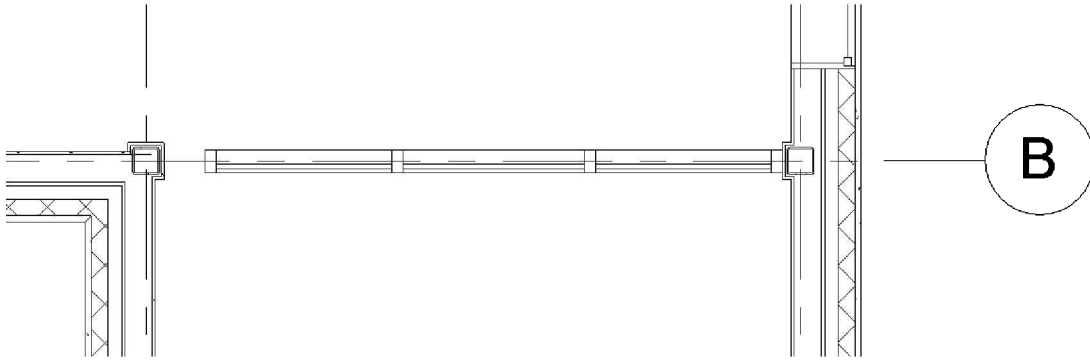

FIGURE 11-4.4 Interior curtain wall added; the West side is held back from the column furring
23. Draw the curtain wall from right to left, directly on Grid line B, stopping short of the column furring on the west (see Figure 11-4.4).